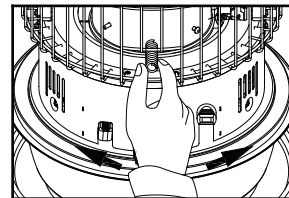

Fig. 11
- Rotate the burner knob from side to side a few times to make sure that the burner is positioned properly on the wick adjuster. (Fig. 11)